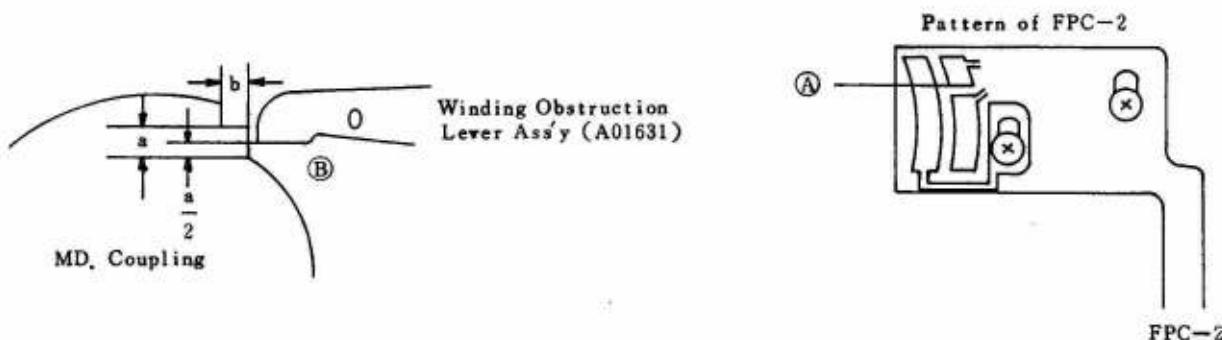

Fig 47
(5) Adjustment of TF-Switch
- a) After winding, return the Winding Lever slowly and check that the point of the Winding Obstruction Lever Ass'y is located at position ② of the Winding Obstruction When the contact part of the Winding Obstruction Lever Ass'y contact is located at position ① as shown in (Fig 47).
- b) The position ① is the pattern of FPC-2, so it is available switch ON or switch OFF.
- c) Adjust the position of pattern of FPC-2 so that you may be able to release the Shutter surely when the point of the Winding Obstruction Lever Ass'y is located at position ②